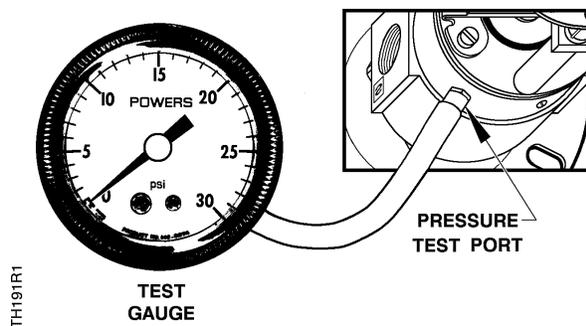

Figure 10. Using the Pressure Test Port.
- Loosen the test port screw about 1/2 turn, and slip a 3/16-inch I.D. rubber hose connected to the test gauge over the pressure test port. See Figure 10.